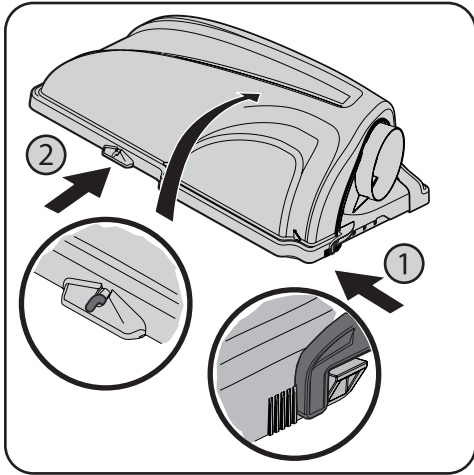

Figure 4-13
- Open hood by pushing in on the rear, right-side tab with your right hand (1), and lifting the cover with your left hand in the center rear of the bagger cover (2) as shown in Figure 4-13.